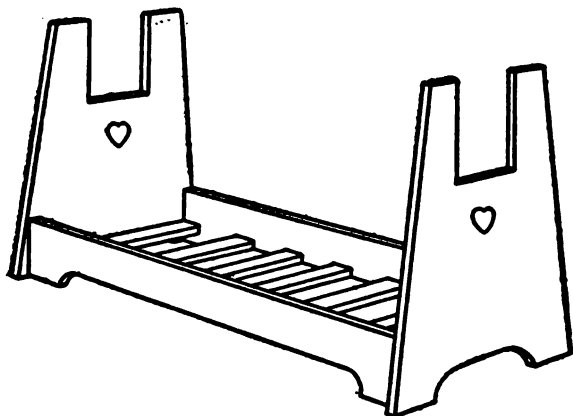

FIG. 275. — A Bed.
Now for the making of some pieces of bedroom furniture. You will find in Figs. 275 and 276 two designs that are easily carried out, one or both of which may be used for
**The Beds of a doll-house.** To make Fig. 275, cut the head and foot by means of the pattern in Fig. 265, and cut the two sides by means of the pattern in Fig. 266. After preparing these pieces and fastening them together as shown in the illustration (Fig. 275), cut a few strips a quarter of an inch wide for slats and fasten them between the sides of the bed. It is advisable to fasten these in place to prevent them from being lost.